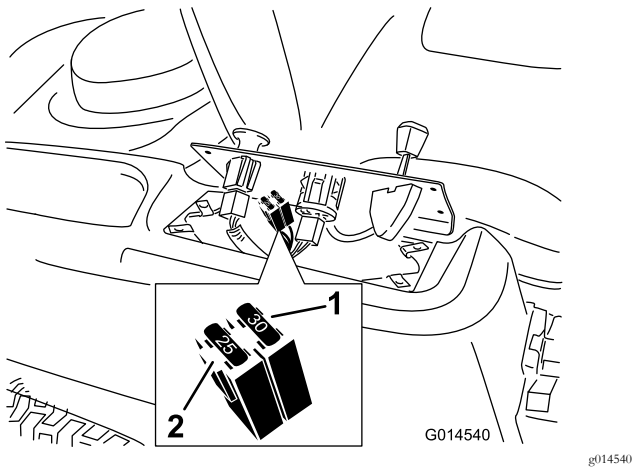

Figure 43
2. Lift the control pane up to access the main wire harness and fuse block (Figure 43).
3. To replace a fuse, pull out on the fuse to remove it (Figure 43).